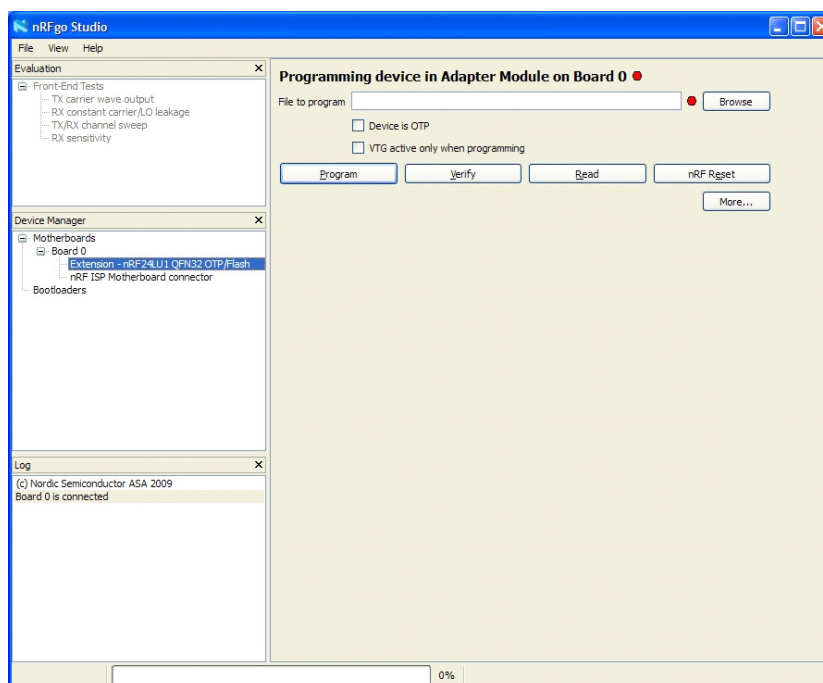

Figure 4. Main dialog for nRFgo Studio
4. Turn on the power of the nRFgo Motherboard (flip the switch S9 to "ON".) On your computer screen, you should now see an application dialog appear from nRFgo Studio. See Figure 4. on page 9.
3. Turn on the power of the nRFgo Motherboard (flip the switch S9 to “ON”.) On your computer screen, you should now see an application dialog appear from nRFgo Studio. See Figure 4. on page 9.